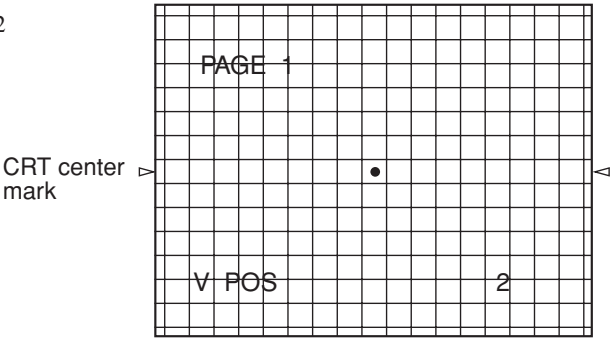

Fig. 1-2
- Using the volume keys on the jig remote controller to adjust the dot mark to the exact vertical centre position in the crosshatch screen. (Fig. 1-2)